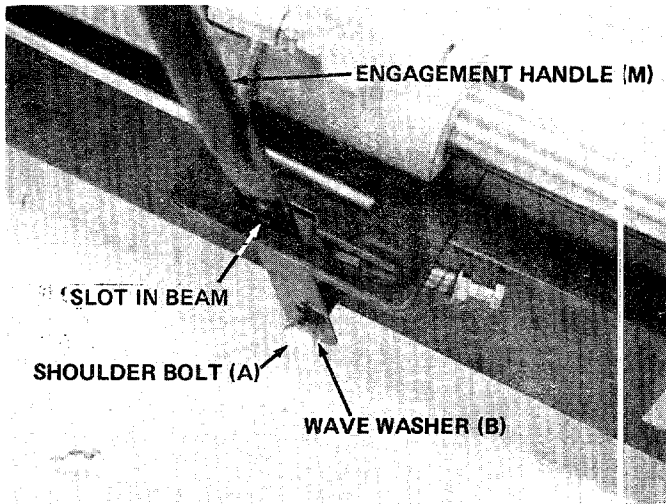

FIGURE 4.
3. Place the flattened end of the engagement handle (M) down through the slotted bracket beside the beam. Secure the bottom hole in the handle to the beam with shoulder bolt (A) and wave washer (B) as shown in figure 4.